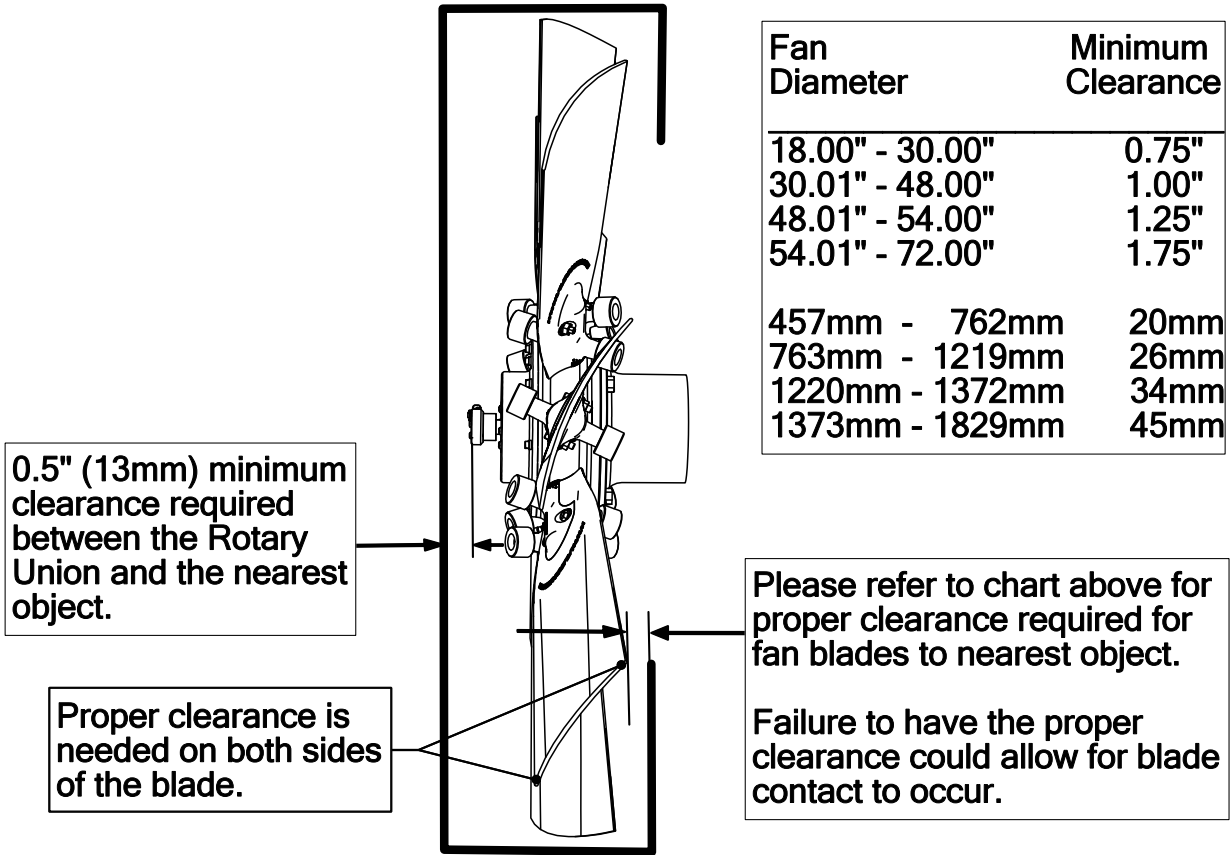

Figure 7
- Ensure you have the correct blade clearance. See **Figure 7** on the next page or a list of recommended minimum clearances based on fan diameter.
WARNING: Ensure that you have the minimum clearance between the rotary union and closest obstruction as per Figure 7 on page 6.
4. Verify that you have the correct blade clearance as per **Figure 7** on page 6.